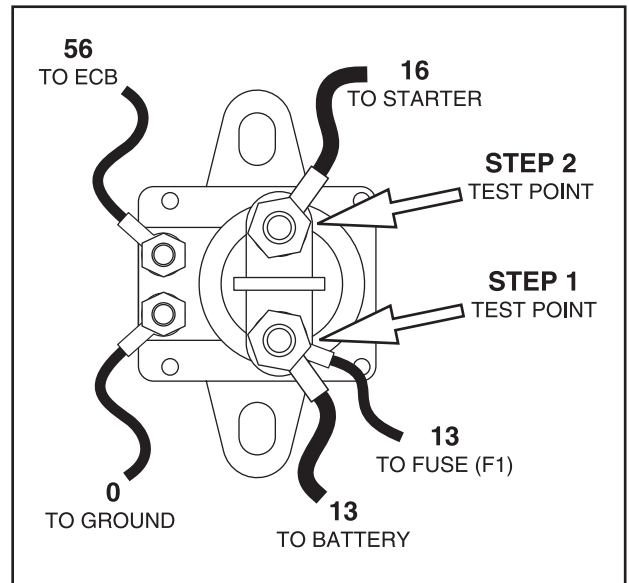

Figure 6. The Starter Contactor (Single Cylinder Units)
2. Now, connect the positive (+) meter test lead to the starter contactor stud to which the starter motor cable attaches (see Figure 6 or 7). Connect the common (-) test lead to frame ground.